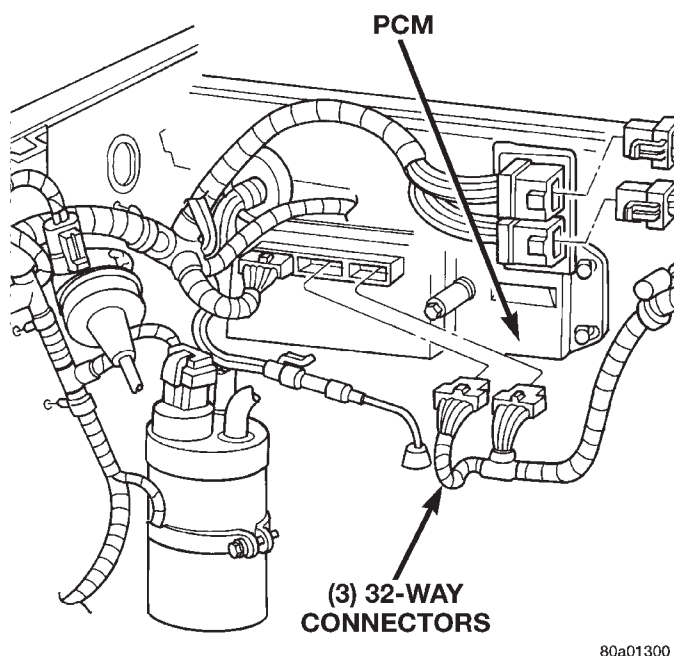

Fig. 22 Powertrain Control Module (PCM)
(1) Verify that the three 32-way electrical connectors are fully inserted into the connector of the powertrain control module (PCM) (Fig. 22).